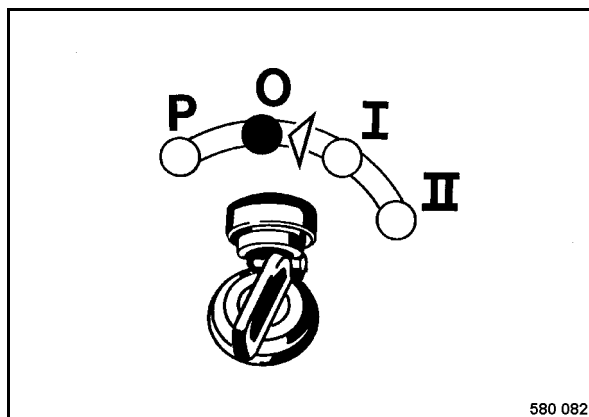

Fig. 41
- Turn the ignition key (Fig. 41) to position "0" or "P" and pull the ignition key out.